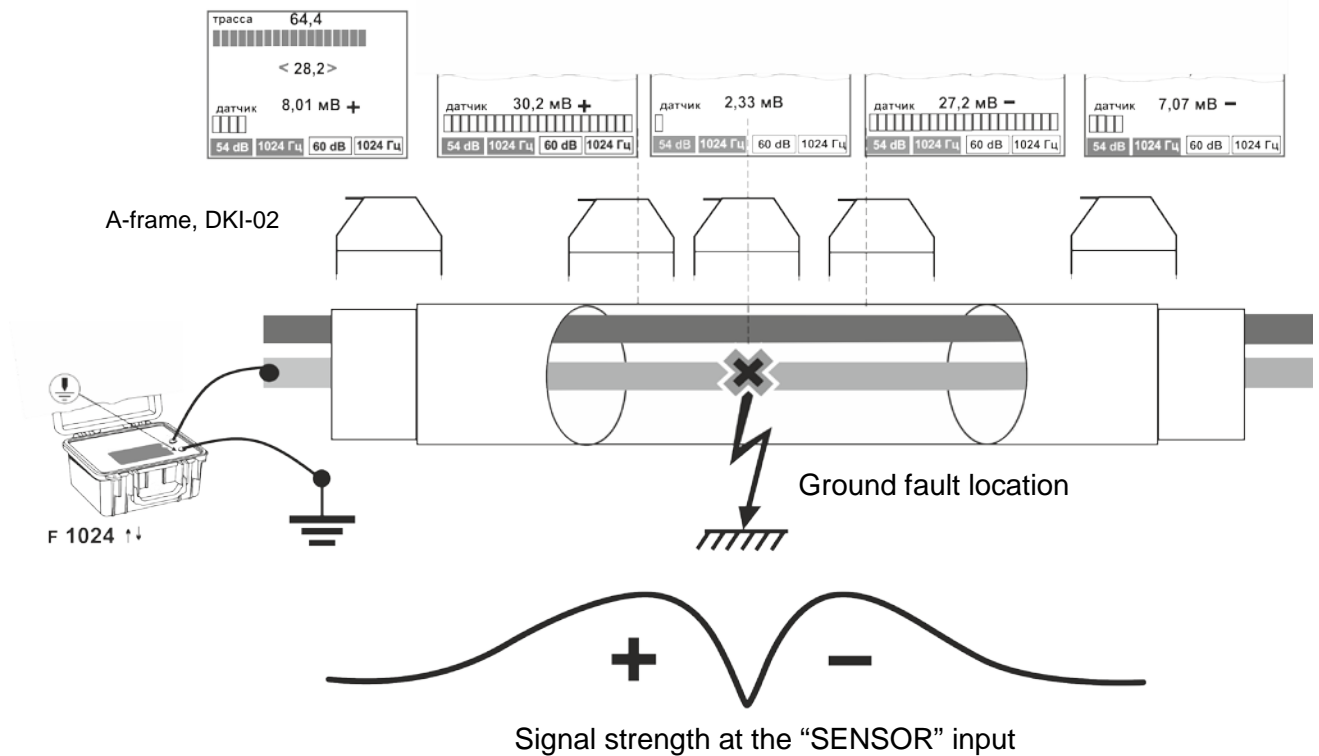

Figure 5.3.3.1 – Connection diagram and signal strength during the search for insulation damage with the use of insulation inspection sensors
Insulation of the cable damage relative to the ground with the resistance of up to hundreds Ohm may be detected with insulation control sensors DKI-02, "A-frame" and DKI-E, DKI-P1. The transmitter shall be connected according to Figure 5.3.3.1. The grounding conductor connected to the transmitter jack marked with "⚡". This method of searching is similar to those described in items 5.2.1 and 5.2.2.